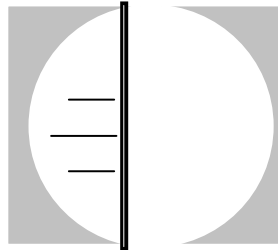

Figure 5-7 Two lines get closer
1. Turn objective 40x to the working position and turn the eyepiece sleeve until the two filar lines inside the eyepiece are very sharp (See Figure 5-7).
2. Turn the micrometer to move the two filar lines closer. The gap between the two filar lines will be increasingly narrowed until reaching the critical state of no gap. At that moment, the light between two lines are very weak. Refer to the Figure 5-7